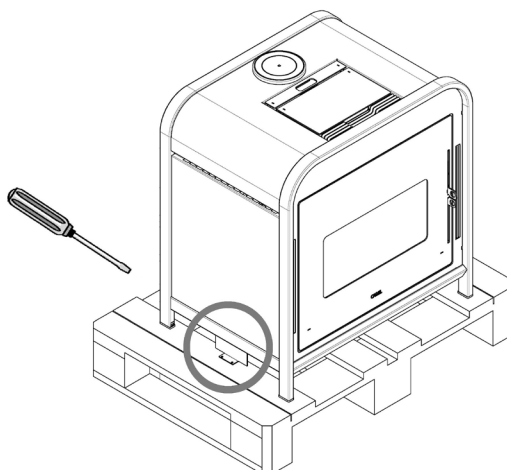

Fig. 1 - Remove the screws + brackets
- Remove the screws of the 2 brackets securing the stove (see **Fig. 1**).